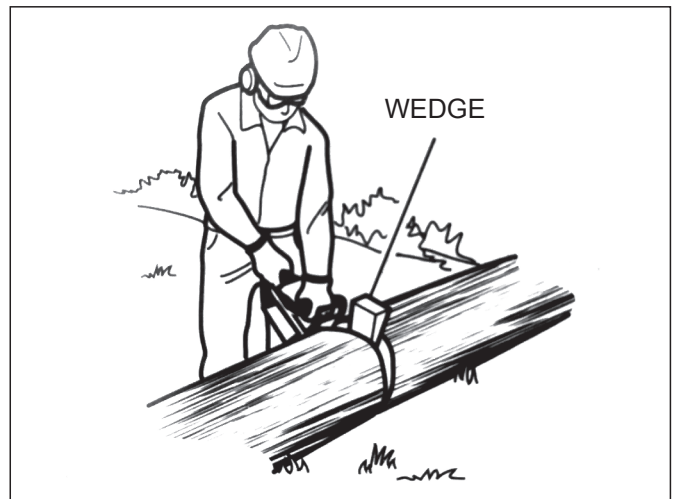

Fig. 30
6. If the wood diameter is large enough for you to insert a soft bucking wedge without touching the chain, you should use the wedge to hold the cut open to prevent pinching(Fig.30).